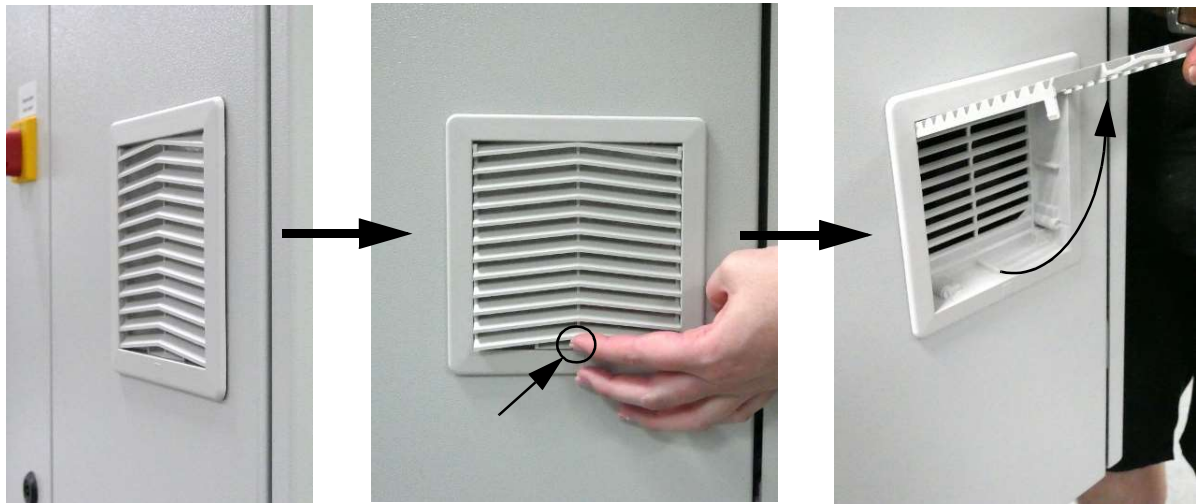

Fig. 113: Replace filter mats on both sides
1. Open the ventilation grids on the left and the right side of the analyser by levering out the ventilation flap (Fig. 113, page 152).